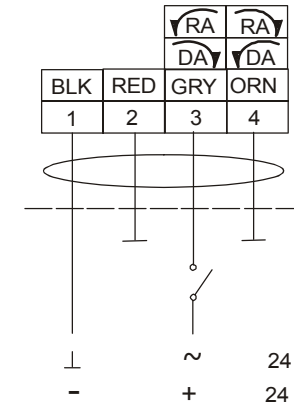
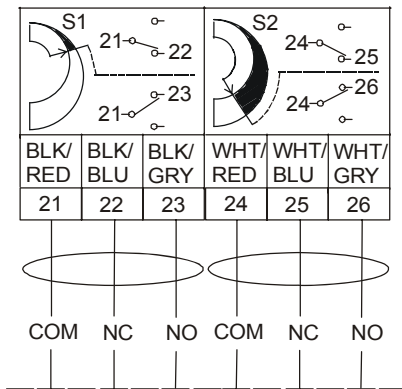

Figure 12: Control Wiring Diagrams
Figure 11: Auxiliary Switch Wiring Diagram for -TA Modles
See Figure 11 and Figure 12 for proper wiring of the DS24-180-T Floating Electric Spring Return Actuators.
1. With power off, move the mode selection switch to the CAL position (Figure 12). Then, energize the actuator. The actuator automatically rotates until the end-stops are found, and proportionally reconfigures the control input range to the reduced rotation range.